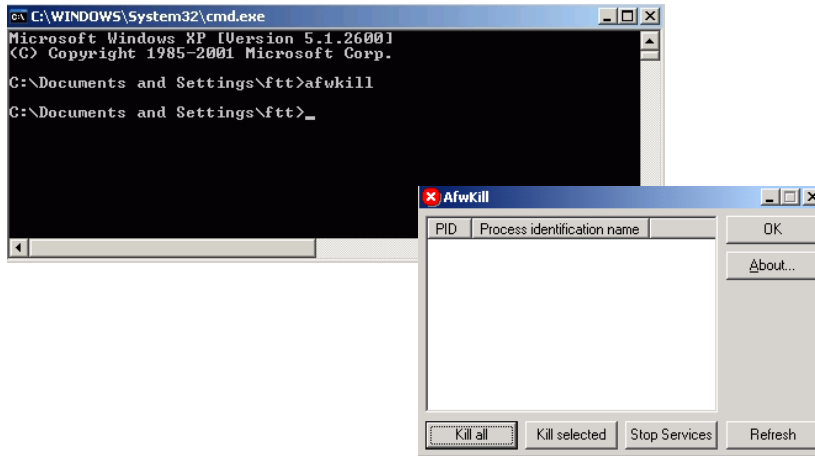

Figure 34. Running the afwkill Utility
- b. Use the afwkill utility (Figure 34) to make sure all processes related to the 800xA System are stopped. From the Windows Taskbar select: